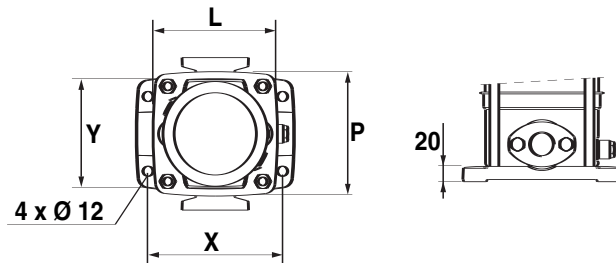

Fig. 3
- For heavy pumps provide a point of attachment (lifting hook) in the pump axis (item12) to facilitate removal.
- Install the pump on a concrete block (at least 10 cm high) (item13) and fix with anchor bolts (installation plan see fig.3).